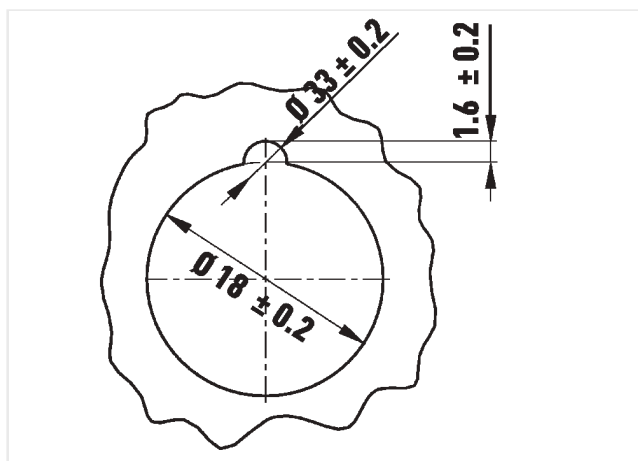

FIG. 5
- Machine a countersink for the catch FIG. 5.